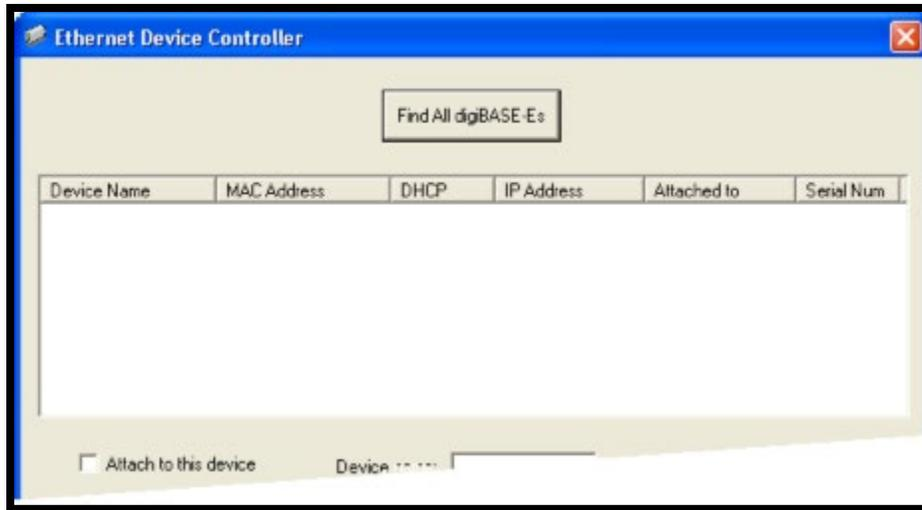

Figure 4. The Initial (Blank) Device Controller Screen
- Click on the Ethernet Device Controller icon on the desktop. (Or use **My Computer** or Windows Explorer to navigate to **C:\Program Files\Common Files\ORTEC Shared\UMCBI** and open the **DeviceController.exe** file.) Figure 4 shows the initial screen.